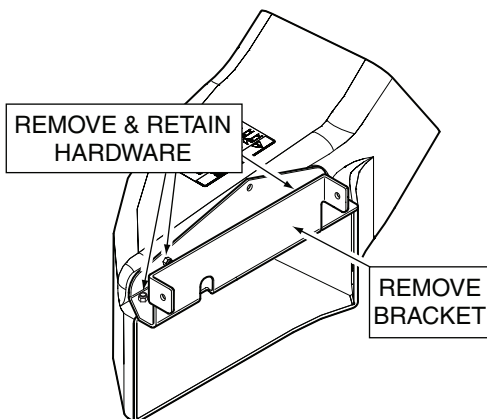

Figure 2-4. Remove GC Boot Mounting Bracket
3. Remove and retain the hardware used to secure the grass catcher boot mounting bracket onto the boot assembly supplied with the grass catcher. See Figure 2-4. The grass catcher boot mounting bracket will be replaced in Step 4.